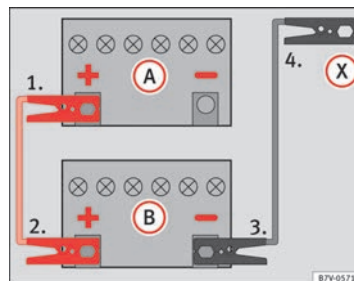
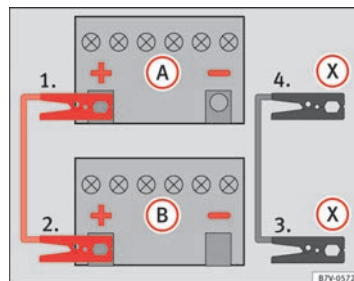

Fig. 218 Diagram of connections for vehicles without Start-Stop system
Fig. 219 Diagram of connections for vehicles with Start-Stop system
- Connect one end of the *red* jump lead to the positive (+) terminal of the vehicle with the flat battery (A) ⇒ Fig. 218.
- Connect the other end of the *red* jump lead to the positive terminal (+) in the vehicle providing assistance (B).
- Connect one end of the *black* jump lead to the negative terminal (–) of the vehicle providing assistance (B) ⇒ Fig. 218.
- Connect the other end of the *black* jump lead (X) to a solid metal component bolted to the engine block or to the engine block itself of the vehicle with the flat battery. However, connect it to a point as far as possible from the battery (A).
- Connect one end of the *red* jump lead to the positive (+) terminal of the vehicle with the flat battery (A) ⇒ Fig. 219.
- Connect one end of the *black* jump lead (X) to a suitable ground terminal, a solid piece of metal in the engine block, or to the engine block ⇒ Fig. 219.